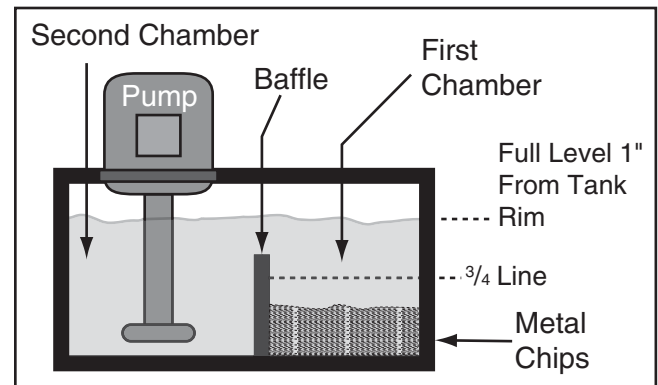

Figure 94. Diagram of cutting fluid tank.
4. Using a wooden stick, check the level of the metal chips in the first chamber (see **Figure 94**). If the chips are $\frac{3}{4}$ the height of the baffle, then remove the chips.